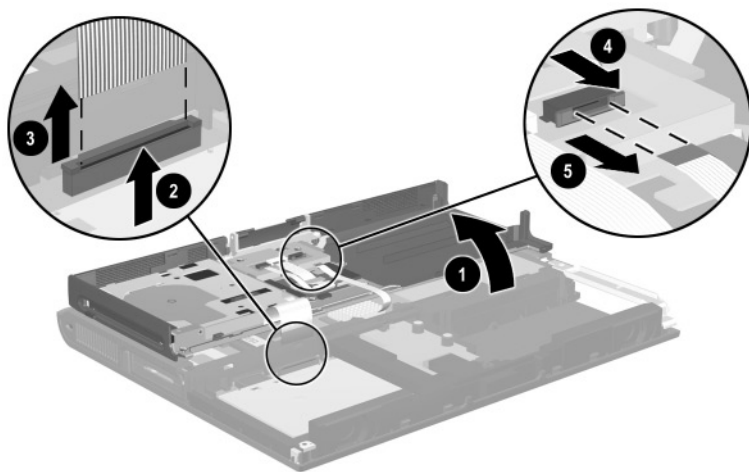

Figure 5-28. Removing the Palm Rest
8. Lift the front edge of the palm rest and swing it up and back **1** until it rests on the top cover (Figure 5-28).